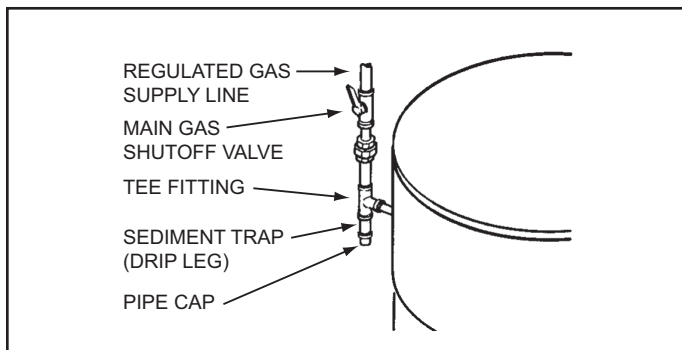

Figure 48
Ensure all gas pipe is clean on the inside before installation. To trap any dirt or foreign material in the gas supply line a sediment trap (drip leg) must be installed as shown in Figure 48. The sediment trap must be readily accessible and not subject to freezing conditions. Install in accordance with the recommendations of the local gas utility company.
7. Install a sediment trap (drip leg) as shown in Figure 48 on page 37.
8. Install a Main Gas Shutoff valve in the supply gas line as shown in Figure 48 on page 38.
1. For test pressures exceeding 1/2 psi (3.45 kPa) disconnect the water heater and its Main Gas Shutoff Valve from the gas supply piping system during testing, see Figure 48 on page 38. The gas supply line must be capped when disconnected from the water heater.